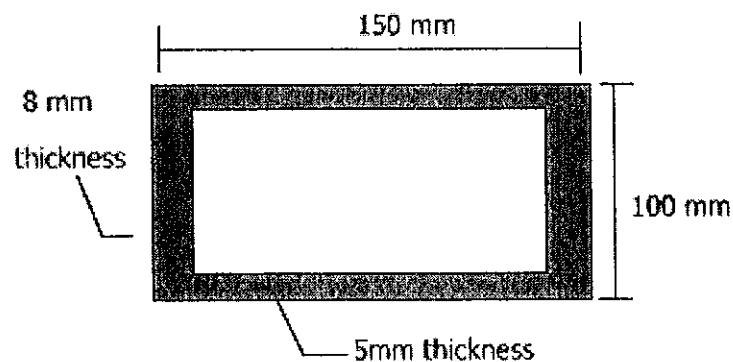

Figure Q3
- Q3 (a) A rectangular steel tube has dimensions and wall thicknesses as shown in Figure Q3